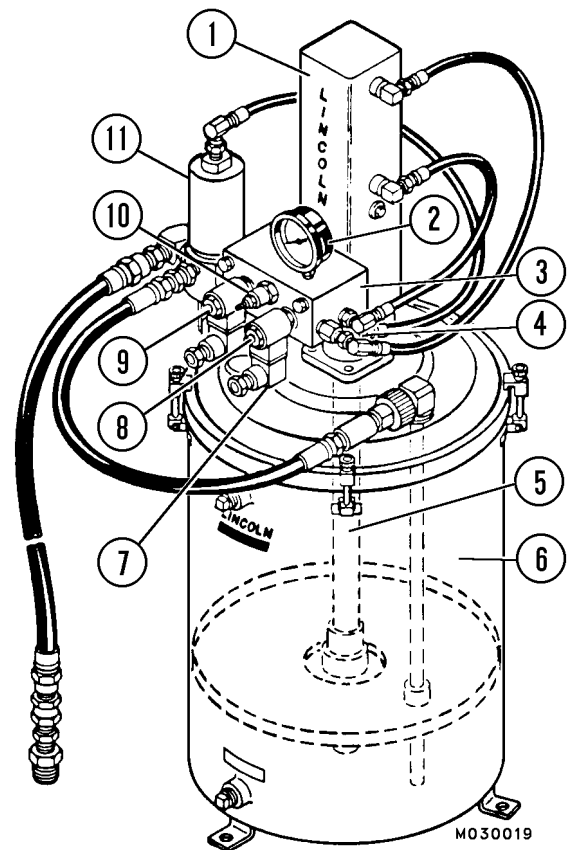

FIGURE 4-2. TYPICAL AUTO LUBE SYSTEM
1. Hydraulically Powered Reciprocating Cylinder and Pump (1 & 5, Figure 4-2).
2. Combination Valve Body (3, Figure 4-2) includes:
3. Pump Cycle Timer (7, Figure 4-2) also called a "Flasher" timer, because it contains an LED that illuminates when there is power going to SV2): The Pump Cycle Timer mounts on SV2 solenoid and generates a timed pulse signal to control the reciprocating cycle rate of the grease pump.
4. Grease Reservoir: For the 930E, the Cannister or Reservoir (6, Figure 4-2) is mounted on the right side front bumper in front of the upright frame support (View A-A, Figure 4-3).
5. Vent Valve (11, Figure 4-2 or 10, Figure 4-3):